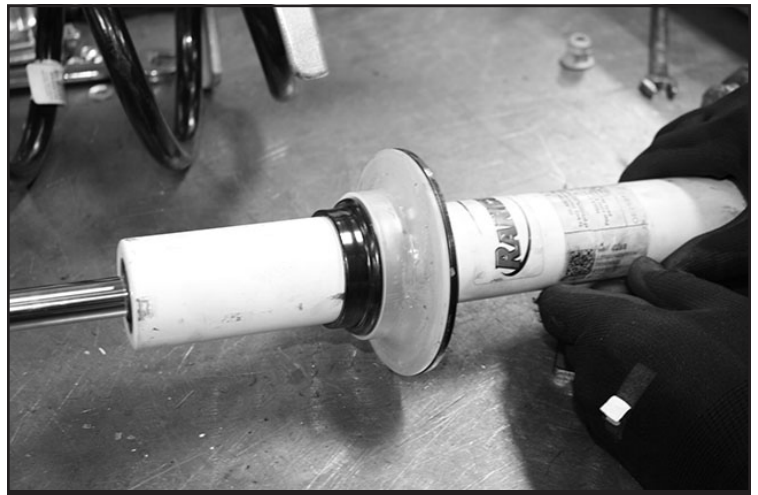

FIGURE 19 - STEP 14
14. Reinstall the lower spring perch. SEE FIGURE 19